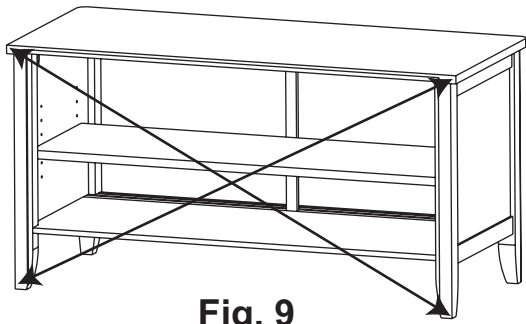
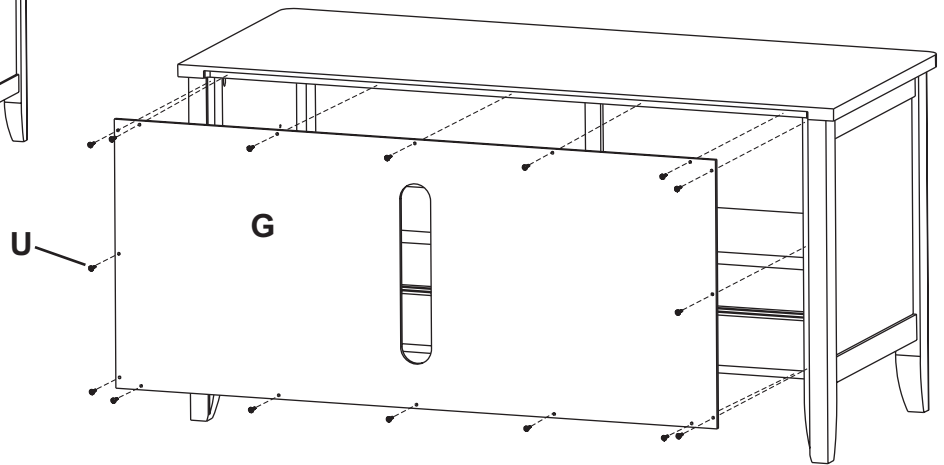

Fig. 9
Fig. 9a
9. To make sure the console is square, measure the distance between opposing corners. If one of the measurements is larger, tap on a leg until the measurement is equal. See Figure 9. Attach the Back (G) with 16 #6 x 5/8" Philtruss Screws (U). See Figure 9a.